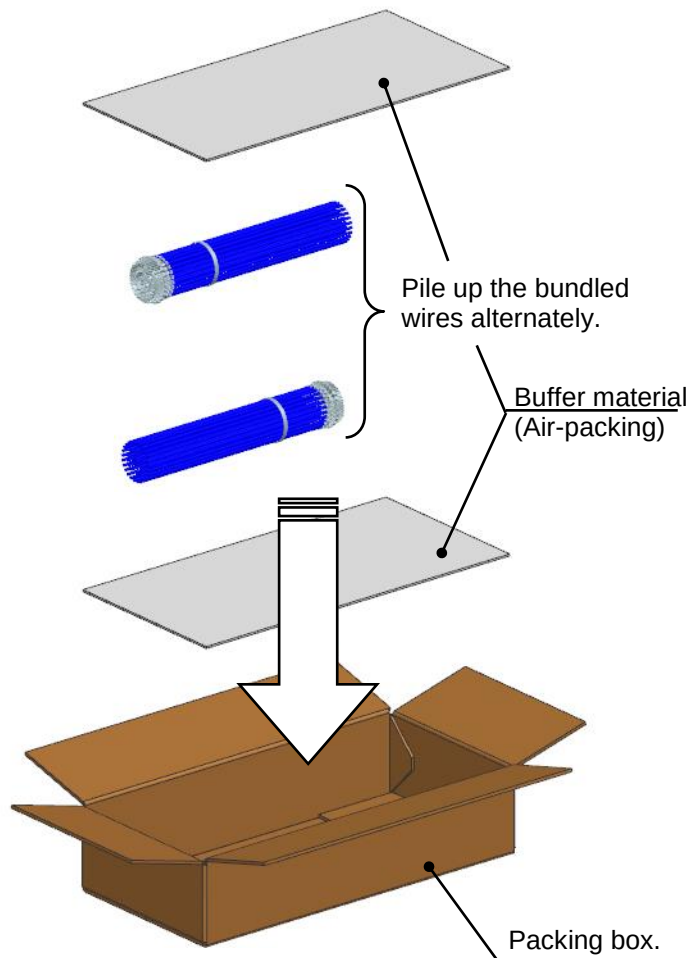

Fig. 5-2
- ※When packing bundled harnesses after processing in package box, in order for force not to be applied to connector for a long period of time by piling up, please put product alternately (cross shape) in a fitting box. (**Fig.5-2**)
In order to avoid applying force to connector for a long period of time by stacking the wires, please lay buffer material. (**Fig.5-2**)